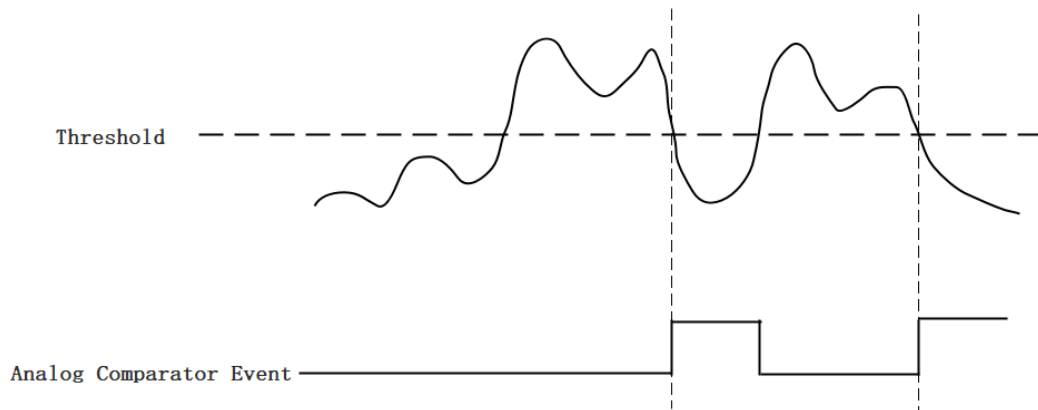

Figure 17 Falling Slope Trigger
*Falling Slope Trigger:* The Edge comparator output is high when the signal goes below the threshold; the output is low when the signal goes above the threshold as shown in Figure 17.